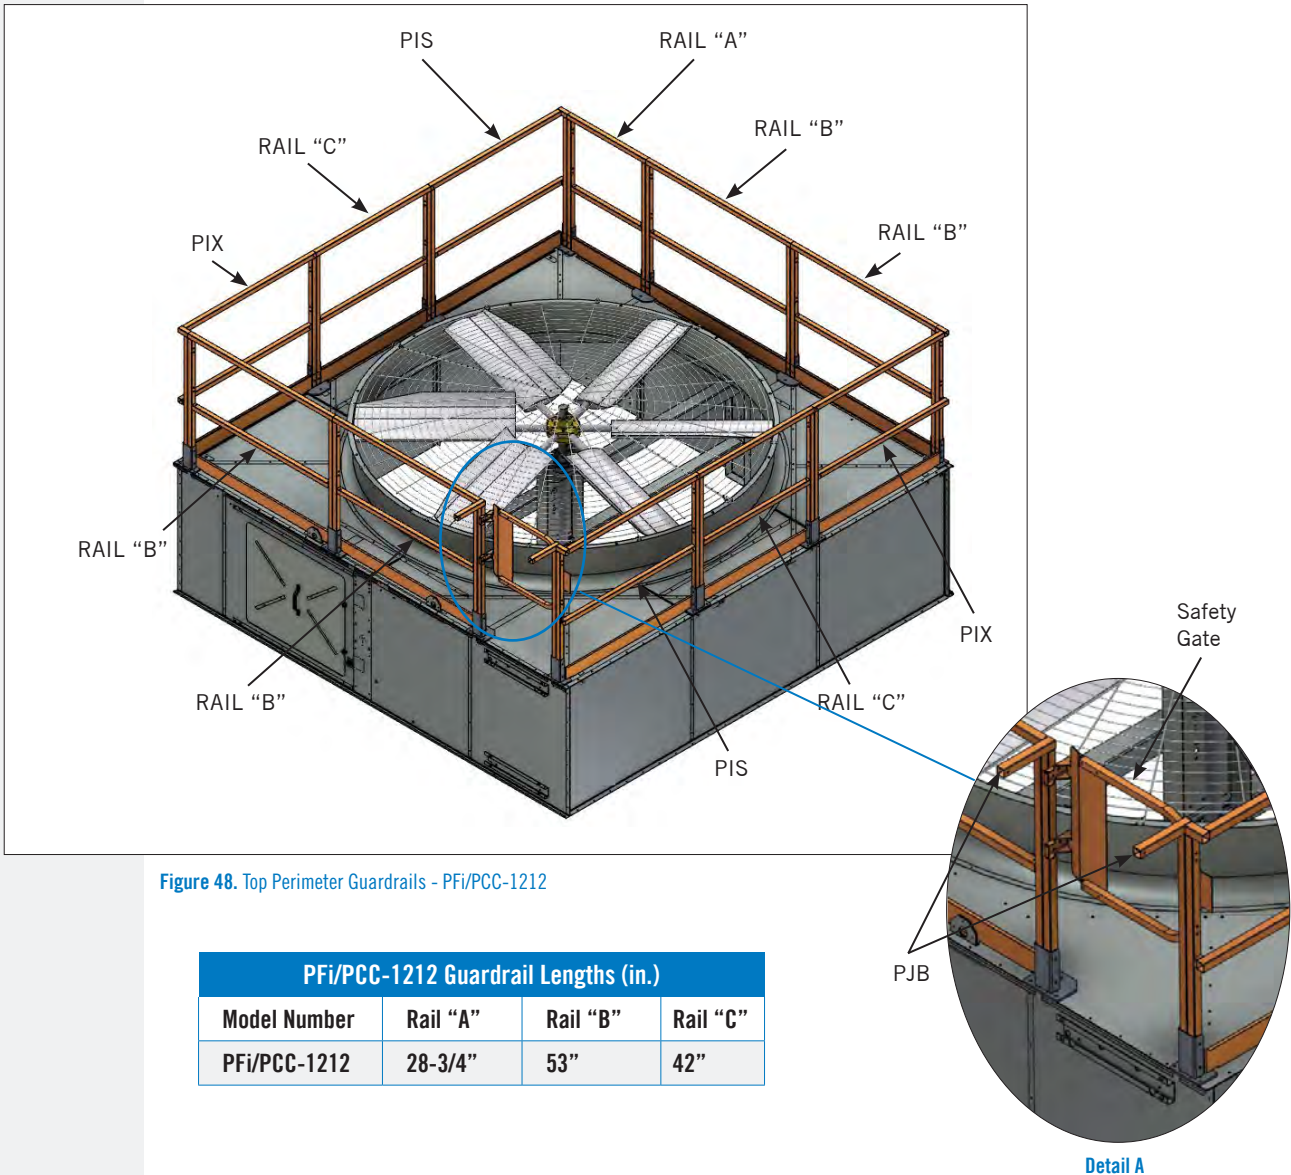
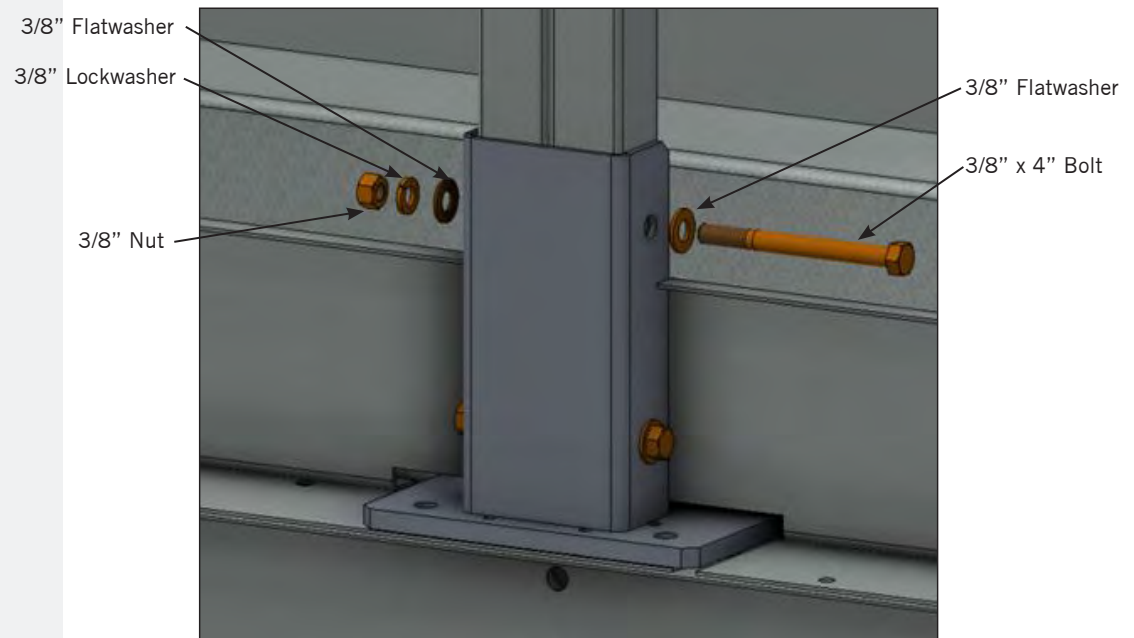

Figure 48. Top Perimeter Guardrails - PFi/PCC-1212
Figure 56. Top Perimeter Guardrail Post Attachment
Refer to Figures 48 to 55 for your particular unit.
1. Secure the individual rail segments to the factory installed post brackets using the 3/8" x 4" bolts provided. See **Figures 48 to 55** and the accompanying rail length tables to determine the correct location for each rail segment. See **Figure 56** for the post attachment detail.